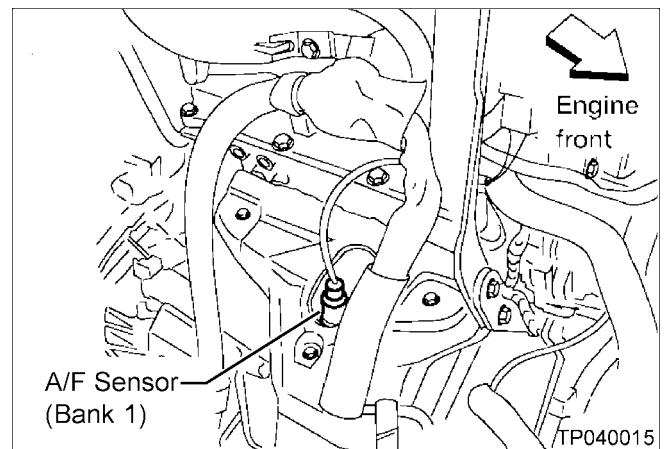

Figure 1
- It is located on the side of the engine that is towards the **rear** of the vehicle (see Figure 1)